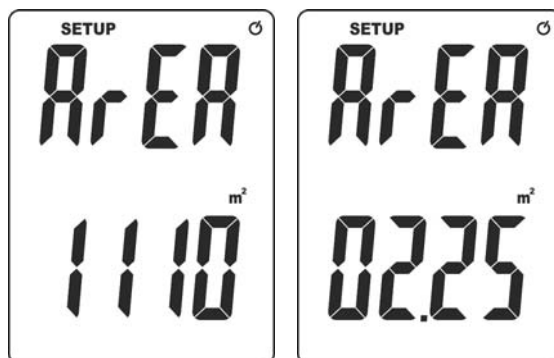

Fig. 4: Setting of the value of duct area
5. Press key **ENT** to confirm. The screen in Fig. 4 – left side is shown on the display
7. Press keys **▲UNIT** or **UNIT▼** to set the value of duct area in the range: $0.001 \div 9999$ by proceeding from right to left and pressing key **ENT** to confirm each digit (see Fig. 4 – right side) relevant, for example, to a square duct with a side of 1.5m x1.5m)